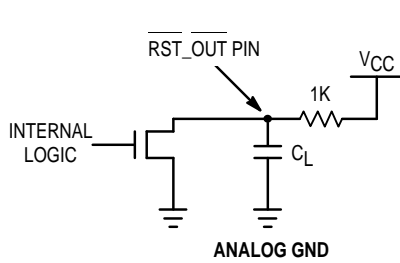

Figure 4. RST\_OUT Test Circuit
- The  $\overline{RST\_OUT}$  pin is an open drain N-Channel output. Therefore an external pull-up resistor must be provided to pull up the  $\overline{RST\_OUT}$  pin when it goes into the high impedance state (after the MC88916 is phase-locked to the reference input with  $\overline{RST\_IN}$  held high or 1024 'Q' cycles after the  $\overline{RST\_IN}$  pin goes high when the part is locked). In the  $t_{PLZ}$  and  $t_{PZL}$  specifications, a 1K $\Omega$  resistor is used as a pull-up as shown in Figure 4.